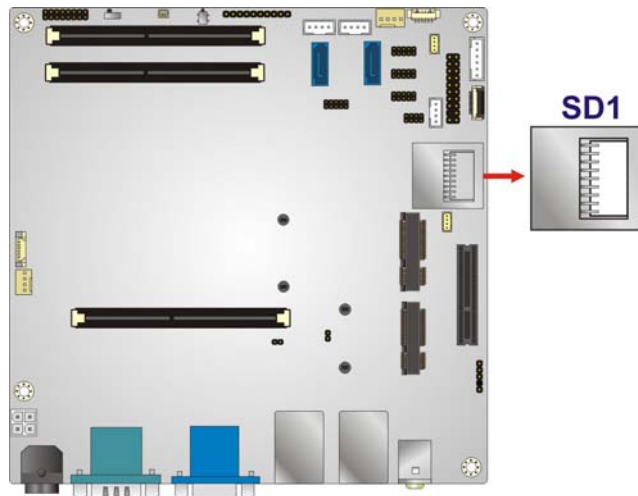

Figure 3-20: SD Card Slot Location
- CN Location: See **Figure 3-20**